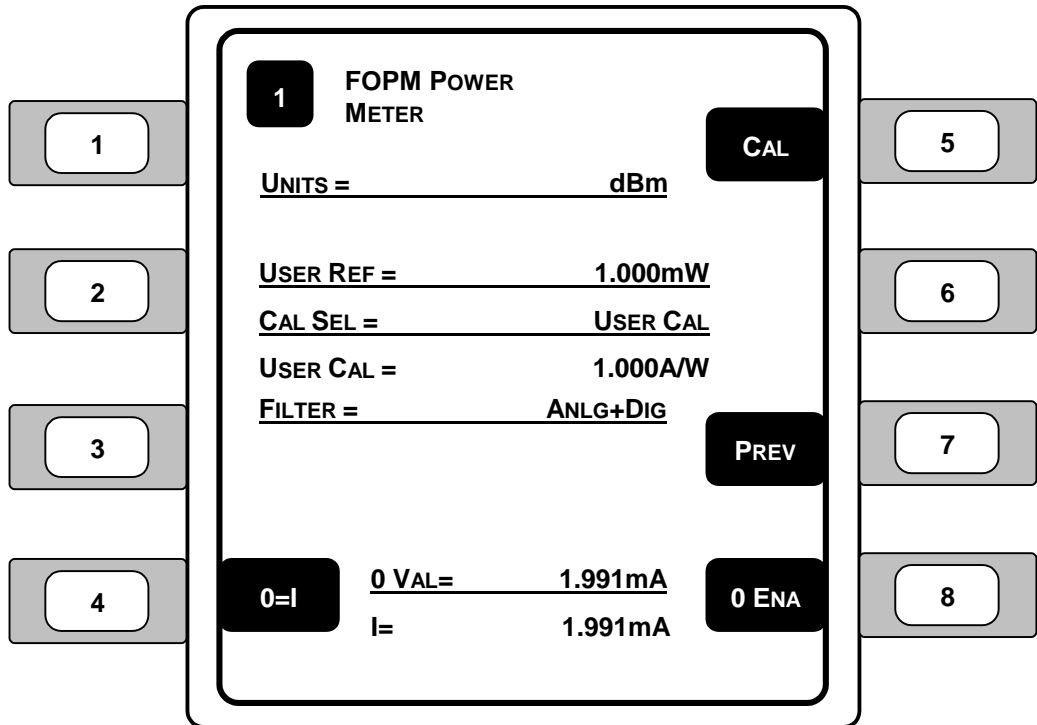

Figure 46 – Single Channel Fiber Optic Power Meter Setup
6. **SETUP** – Changes the screen to the power meter setup menu. See **Figure 46**.